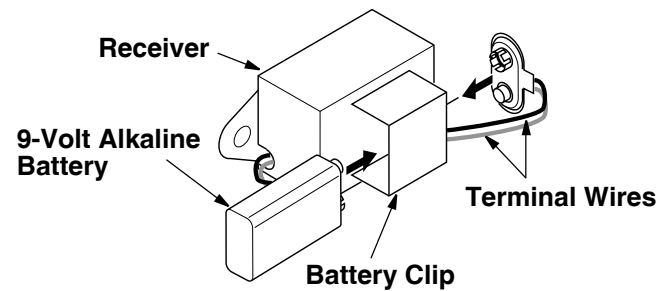

Figure 42 - Attaching Alkaline Battery to Receiver
3. Attach the terminal wires to the battery. (see **Figure 42**).